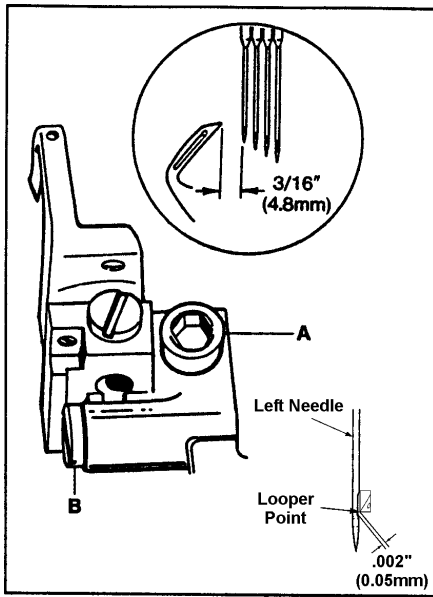

FIG. 15
Turn the handwheel in operating direction until the looper has traveled fully to the left. Loosen screw (A, Fig. 15) and move the looper holder to the right or left until the distance from the point of the looper to the center of the first (left) needle is  $\frac{3}{16}$ " (4.8mm). Clearance between the looper point and the scarf of the needle must not exceed  $.002$ " (0.05mm). Turn screw (B) until the  $.002$ " (0.05mm) dimension is achieved. Tighten screw (A).